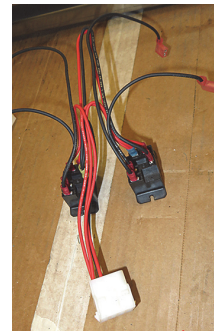

Figure 12
15. Remove the relays and attached wires from the enclosure (see Figure 12) and discard.